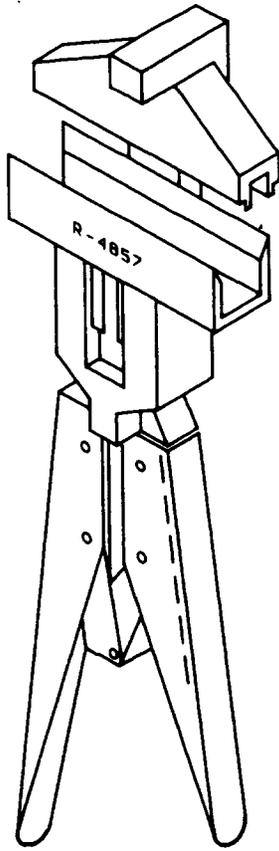
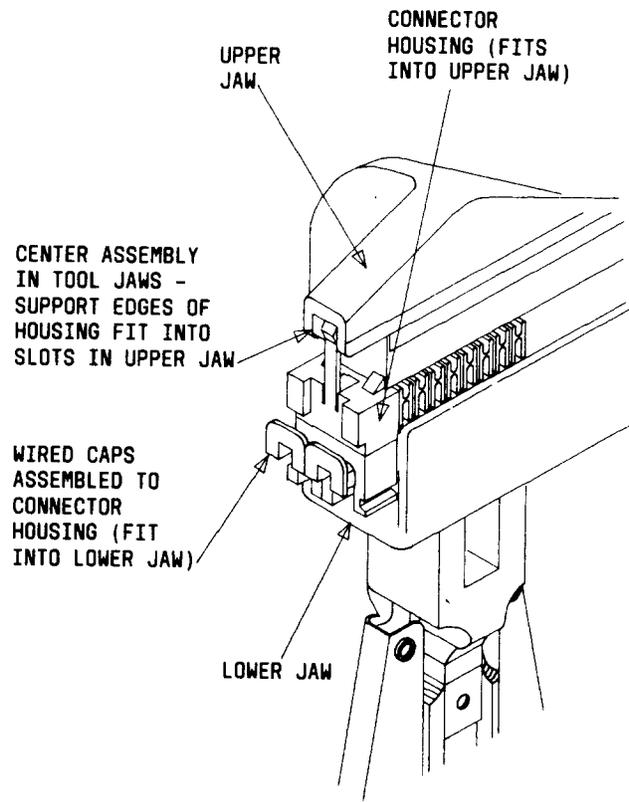

Fig. 17—R-4857 (Amp No. 266186-1) Cap Setting Tool
Fig. 18—Connector Placed in R-4857 (Amp No. 266186-1) Cap Setting Tool
5.10 To assemble the cap and base, unsnap the base from the backplane. Attach the two caps required to terminate one connector. Make sure orientation slots are facing out. Now tilt the connector at a 45 degree angle to the backplane (it can only be tilted in the direction it is wired). Slip the R-4857 (Amp No. 266186-1) cap setting tool, as shown in Fig. 17, over the connector. The jaw nearest the handle is the housing for the two caps (Fig. 18). By sight, center the connector in the cap setting tool and exercise care that all wires are clear of the cap setting tool. Now, simply squeeze the handle of the tool until it releases. (Caps may be assembled in this manner, one at a time or together.) Remove the connector and snap into the backplane.